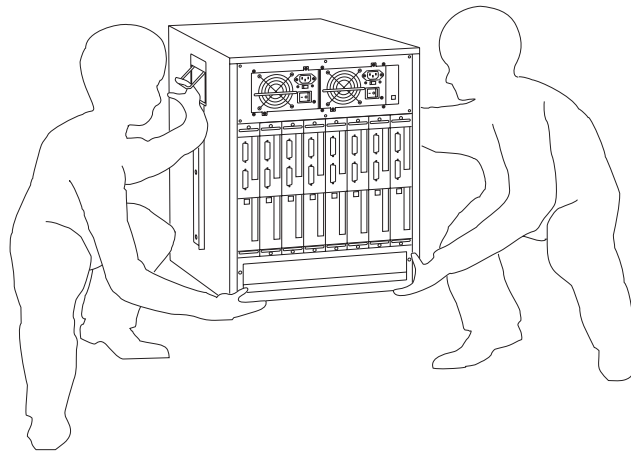

Figure 7.1. Moving the Unit into a Telco Rack
1. Two people are needed to move the unit into the rack. Do not attempt to move the unit by yourself. Holding the unit from the bottom and by the side handles as shown in Figure 7.1, carefully lift the unit and place it into the brackets.